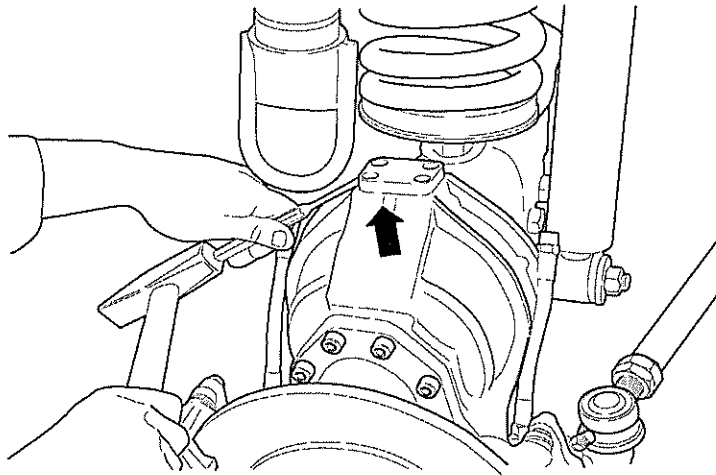

Fig 13 Removing top swivel pin
11.6 Pull out swivel pin. If pin is excessively tight, apply drift laterally (see Fig 13) and remove by rotating from side to side.